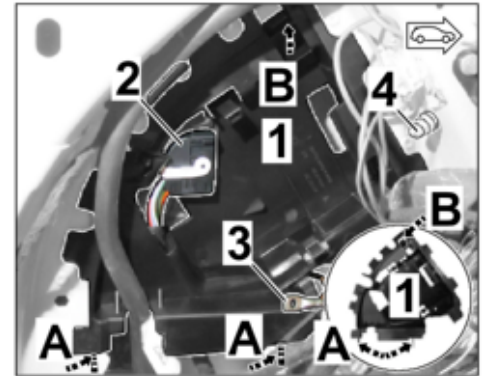

Figure 11
2.4 Install trailer hitch control unit in the luggage compartment area (left side panel). ⇒ *Figure 11*
2.4.2 Insert pins (2 x on underside of control unit bracket) into the body. ⇒ *Figure 11 -A-*
2.4.3 Clip trailer hitch control unit bracket at the top into the web plate on the body. ⇒ *Figure 11 -B-*